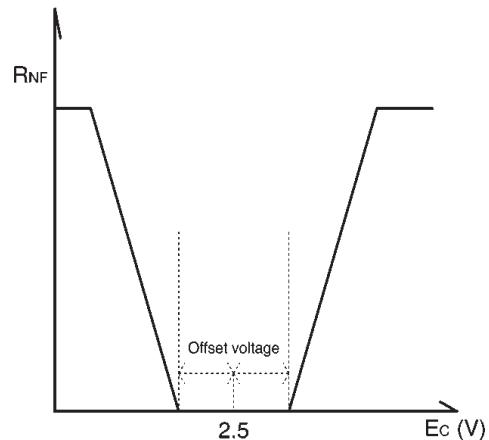

Fig. 6
(2) Torque control pin
The R_{NF} -pin current depends on the torque control input voltage (EC) as shown in Fig. 6.